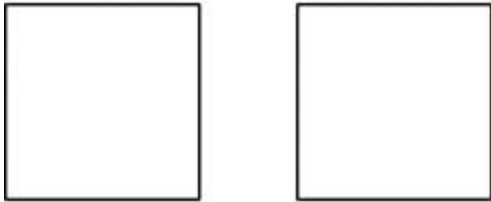

Figure 4-7
- 8 Select the **Close** option to close the square and end the **LINE** command. Your drawing should now resemble Figure 4-7.